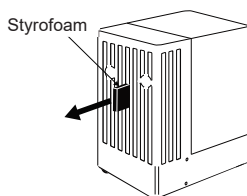

Figure 6
3. Carefully pull out the Styrofoam in the traverse direction that holds the cam (Figure 6).